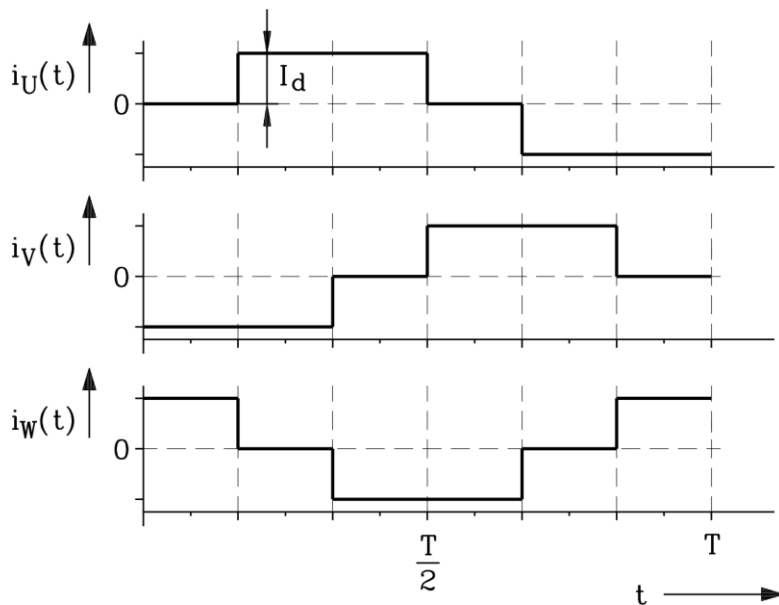
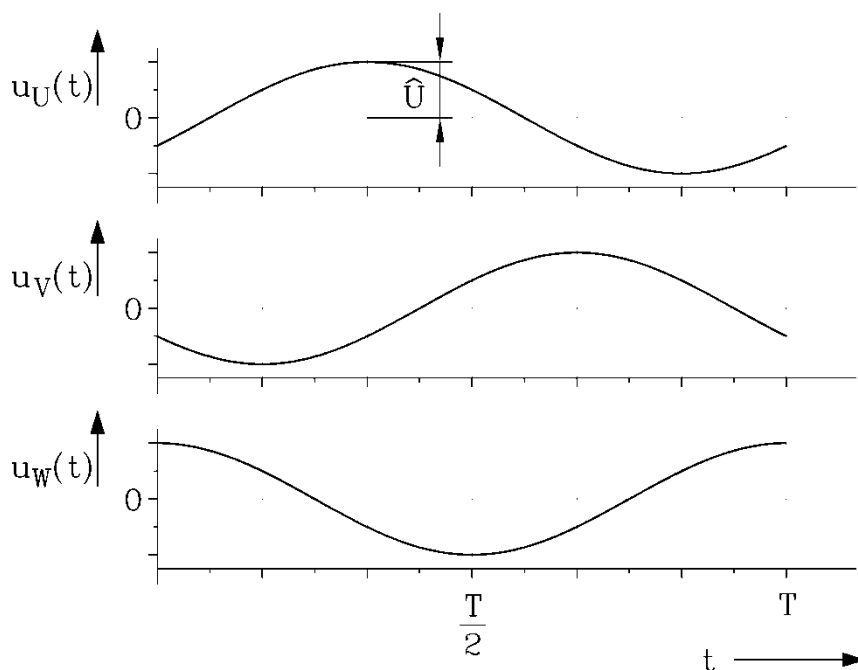
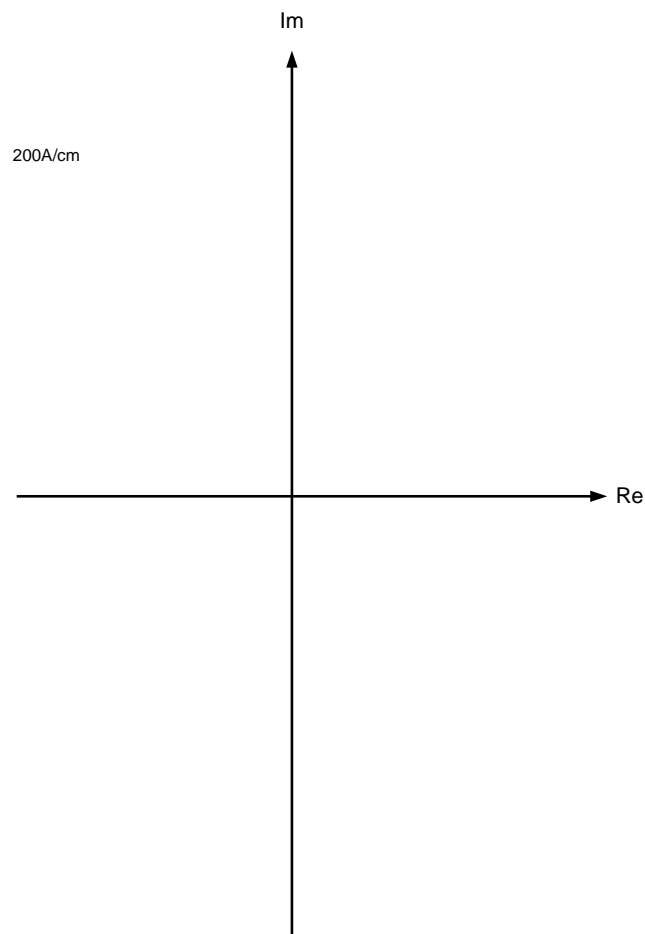

Fig. 8.6-1: Phase currents time function in the phases: U, V, W
Fig. 8.6-2: Phase voltage time function in phases: U, V, W
Fig. 8.6-3: Chart 1 for the space vector diagram
The time function of the phase currents in stator winding and the phase voltages are shown in Fig. 8.6-1 and Fig. 8.6-2 respectively.
- 2.) With which power factor of fundamental voltage and current $\cos\varphi$ is the motor operated (Sketch fundamental of $u(t)$, $i(t)$ according to Fig. 8.6-1 and 8.6-2) ?
- 3.) Calculate the current space vector in physical units (A) and as p.u.-values for $I_d = 1850$ A for the following instants (time t):
- 4.) Draw the current space vector $\underline{i}(T/12)$, $\underline{i}(T/4)$ of 3), using scale: 200 A/cm, in the cross-section plane of the machine in complex reference frame (Fig. 8.6-3). How big is the angle between the two vectors?
\Rightarrow The motor phase voltage is sinusoidal (Fig. 8.6-2).